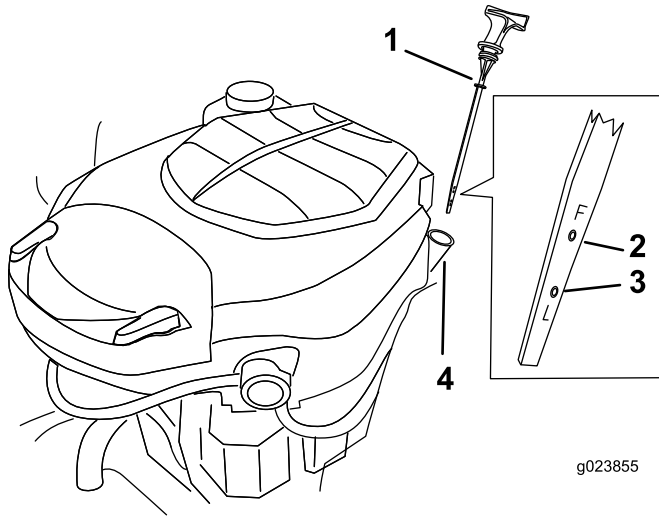

Figure 29
4. Remove the dipstick and wipe the oil off from it (Figure 29).
6. Pull the dipstick out, and check the oil level (Figure 29).
8. Remove the oil-fill cap/dipstick (Figure 29).
18. Slowly pour approximately 80% of the specified oil into the filler tube (Figure 29).
19. Install the oil-fill cap/dipstick (Figure 29).
20. Check the oil level (Figure 29).
22. Install the oil-fill cap/dipstick (Figure 29).